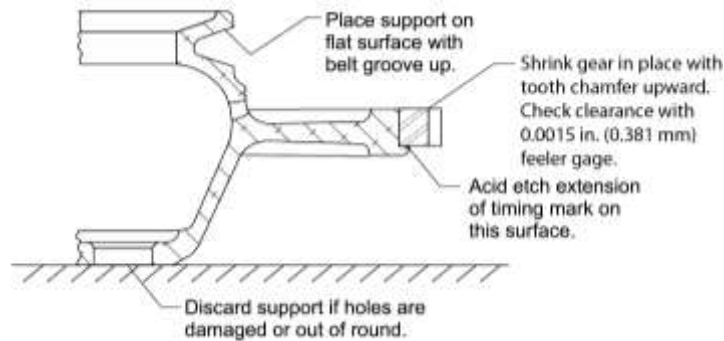

Figure 52
- (1) Put the starter ring gear support on a flat surface (Figure 52) with the alternator/generator belt groove upward.